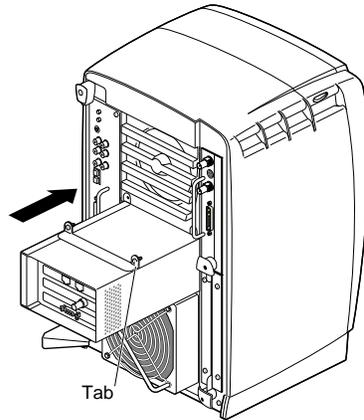

Figure 4-49 Installing the PCI Module
5. Insert the PCI module in your workstation, as shown in Figure 4-49, then push it until the tabs are flush with the chassis.